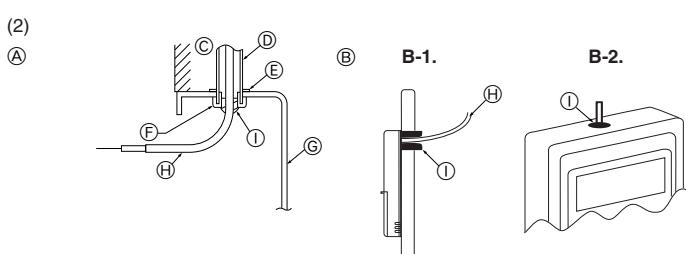

Fig. 6-3
- (2) Seal the service entrance for the remote controller cord with putty to prevent possible invasion of dew drops, water, cockroaches or worms. (Fig.6-3)
- (A) For installation in the switch box: